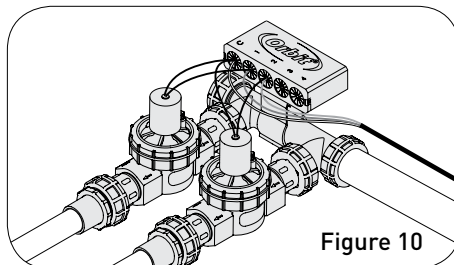

Figure 10
8. Slide the “Easy Wire” Organizer onto the mounting bracket and attach to the valve manifold (Figure 10)